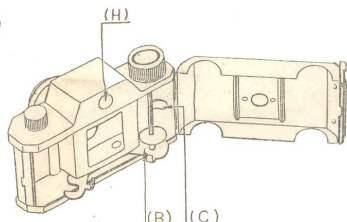

fig. 2
- 2) When first film is taken, wind the film winding knob (D) so that figure 2 will appear on the leader paper.